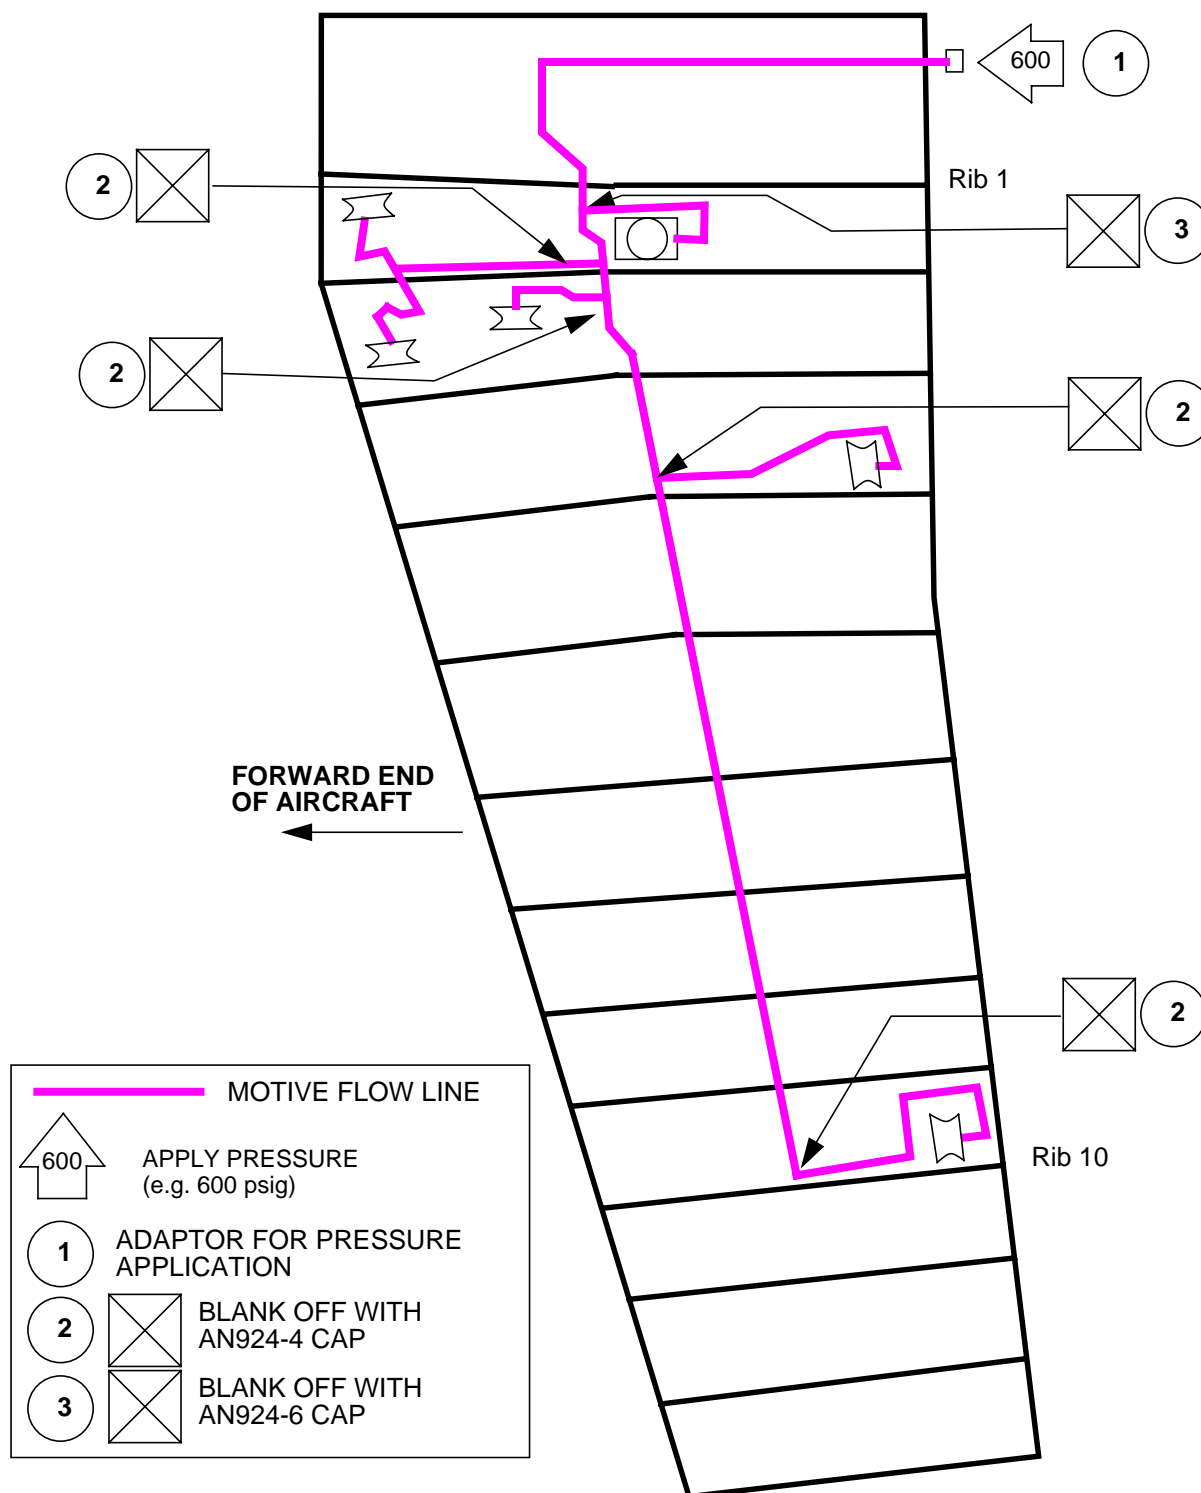

Figure 4 - Motive Line Pressure Test
5.3.2.3 Isolate the **high pressure motive line** as follows (see Figure 4):